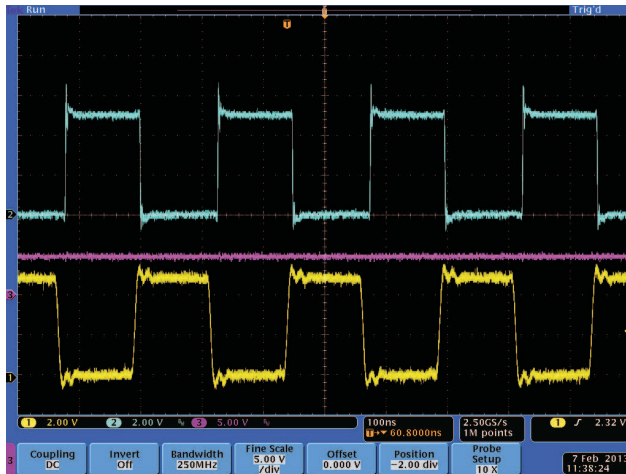
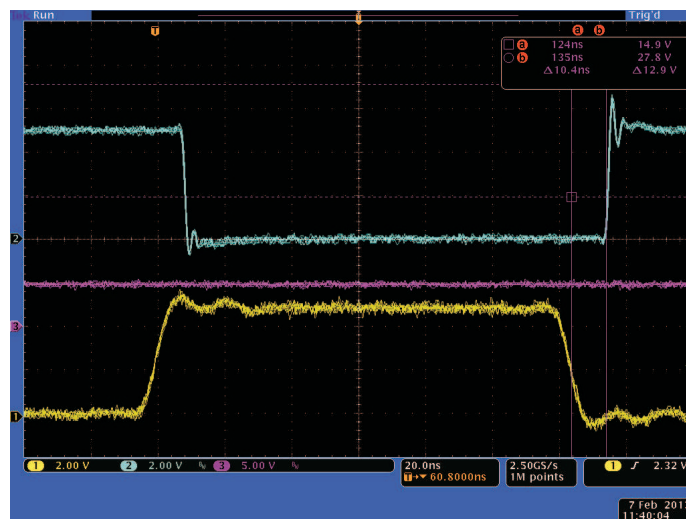

Figure 7. Inverting Output
Figure 9. Inverting Output Input Falling Edge Propagation Delay
9. Set switch S1 on position B, and record inverting output as shown in Figure 7 through Figure 9.
Figure 7 through Figure 9 have the same conditions as the above but with the input signal going into the inverting input and the operation has with no load on the output and inverting input.